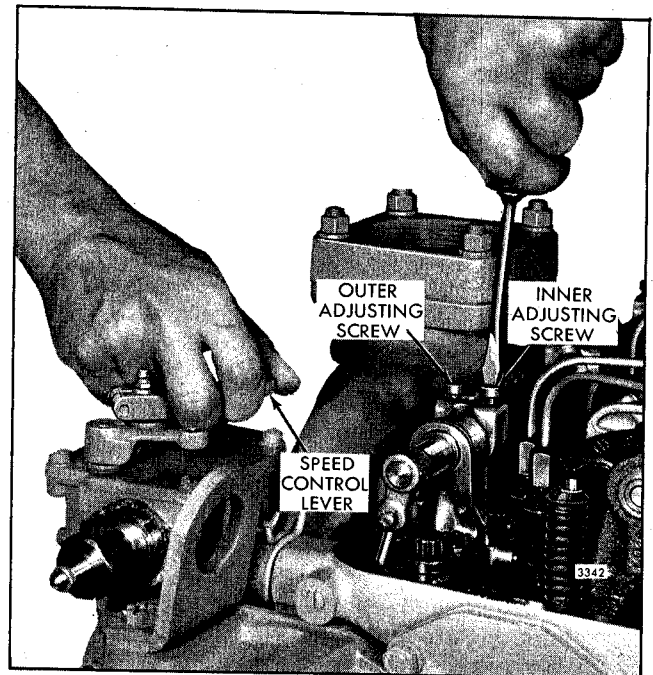

Fig. 5 - Positioning the Rear Injector Rack Control Lever
Adjust the rear injector rack control lever (Fig. 5) first to establish a guide for adjusting the remaining injector rack control levers.
1. Refer to Fig. 5, and disconnect any linkage attached to the speed control lever.
3. Move the speed control lever to the full-fuel position as shown in Fig. 5. Turn the inner adjusting screw down on the rear injector rack control lever until a step up in effort to turn the screw driver is noted. This will place the rear injector rack in the full-fuel position. Turn down the outer adjusting screw until it bottoms lightly on the injector control tube. Then alternately tighten both the inner and outer adjusting screws until they are tight.